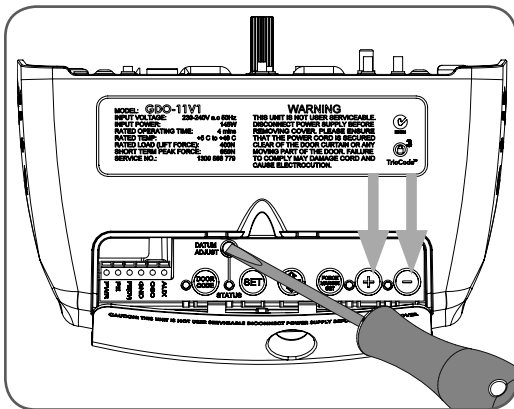

fig 29
- Using a small screwdriver, turn the DATUM ADJUST screw until the STATUS LED comes on (Fig 29).